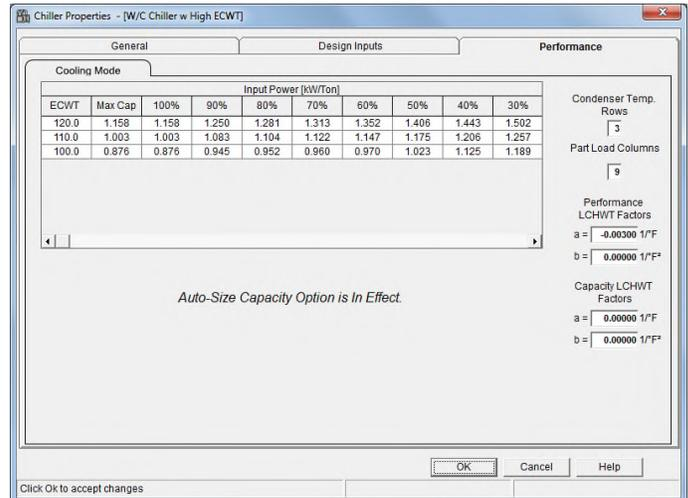

Figure 5.
- **Performance Map** (Figure 5) – For accurate results the performance map must always contain performance data spanning the range of expected operation. For water-cooled chillers this means the range of expected ECWTs and part-load ratios. Therefore, the performance map must define performance data for the elevated ECWT defined for full load. The default chiller performance maps are designed for conventional applications with the chiller full load design point at 85 F (29.4 C) ECWT. Therefore, performance map data must be adjusted to show appropriate performance for the elevated ECWTs required for heat recovery operation.